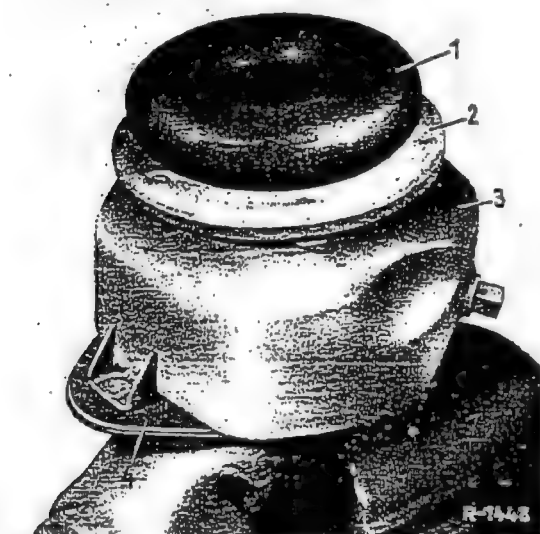

Fig. 32-14/12
1. Put the air chamber on a mounting plate held in a vise (Fig. 32-14/12).